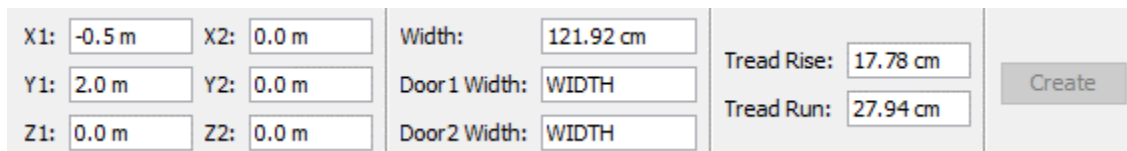

Figure 58. Property panel for the two-point stair tool
2. Select the two-point stair tool, . The property panel will display the stair creation properties as shown in Figure 58.